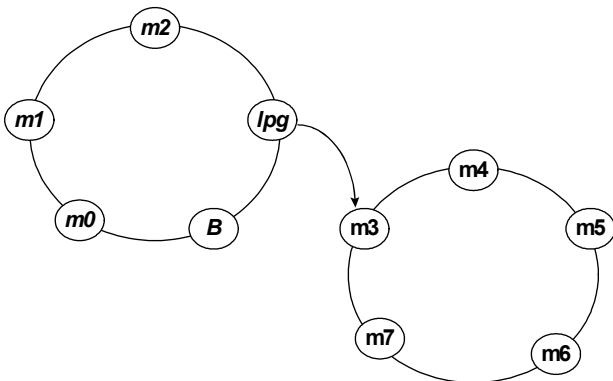

Figure 13-1. Secondary Bus Arbiter Example
The secondary Arbiter supports a programmable two-level rotating algorithm that enables the eight request/grant pairs to control up to eight external bus masters. In addition, there is a request/grant pair internal to the PCI 6466, which allows the device to request and be granted access to the secondary bus. Figure 13-1 is an example of the Internal Arbiter wherein four masters, including the PCI 6466, are in the high-priority group, and five masters are in the low-priority group. Using this example, if all requests are always asserted, the highest priority rotates among the masters in the following way (the PCI 6466 is denoted as *B*; high-priority members are provided in *italic type*, and low-priority members in **boldface type**):
**Note:** In Figure 13-1, “lpg” denotes “low-priority group.”
Using the example provided in Figure 13-1, but with the groups at fixed-priority, suppose that: